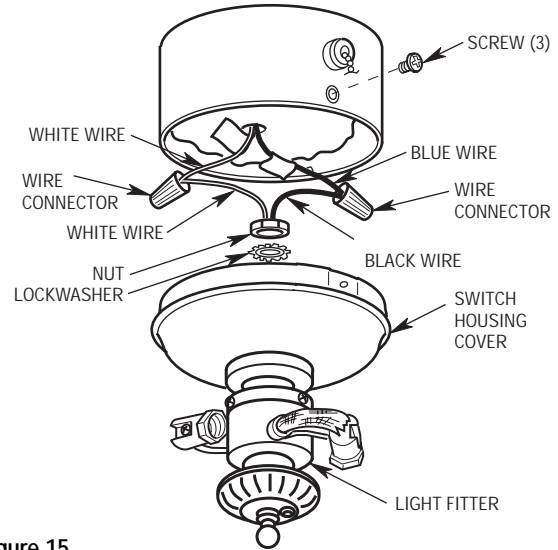

Figure 15
- 2. Remove and retain the lockwasher and nut from the light fitter. Insert the black and white wires from the light fitter through the center hole in the switch housing cover. Thread the switch housing cover onto the light fitter. Reinstall the lockwasher and nut and tighten securely (Figure 15).
- 3. Connect the white wire from the ceiling fan to the white wire of the light fitter (Figure 15). Connect the blue wire from the ceiling fan to the black wire of the light fitter. Use wire connectors (previously removed) to make connections.